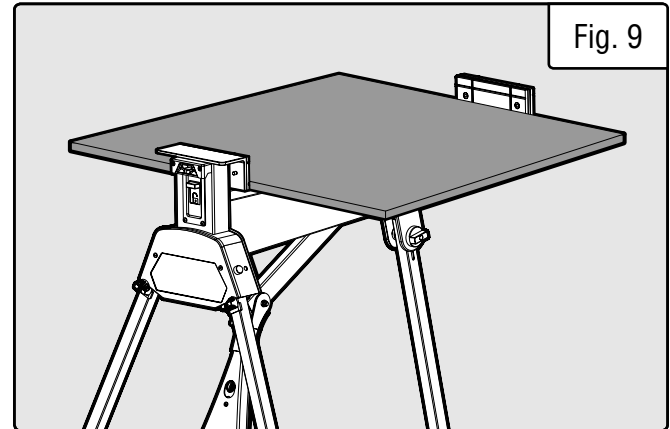

Fig. 9
- To clamp a workpiece 22.5 in. - 40 in. in size, re-position the moving jaw in reverse and unscrew the moving jaw handle. Do not try to clamp large, uneven workpieces that may force the moving jaw to bend/warp as it clamps. The workpiece should sit level on the top surface between the jaws (Fig. 9).